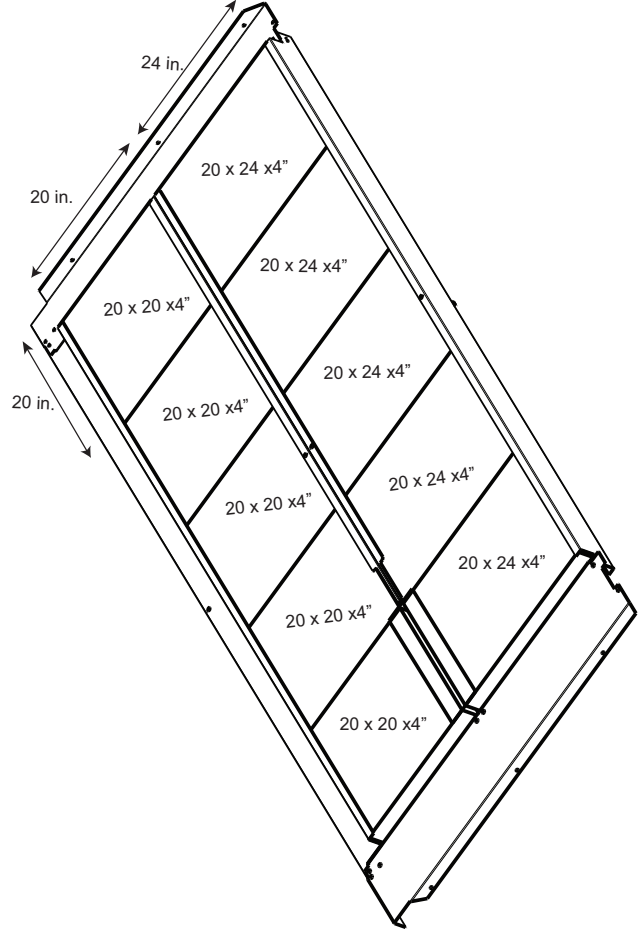

Fig. 10 — 4 in. Filter Orientation (Sizes 20-50 Shown)
8. To insert new filters, start with the bottom row of filters. See Fig. 9 for 2 in. filter orientation and dimensions. See Fig. 10 for 4 in. filter orientation in the filter rack.